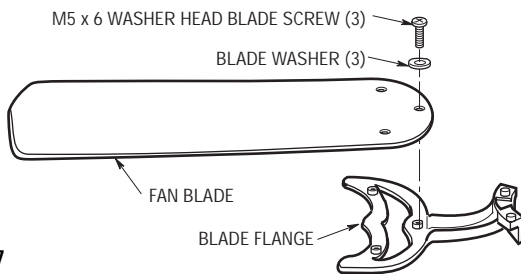

Figure 7
- 9. Mount blade flanges to fan blades using three M5 x 6 washer head blade screws and three blade washers (Figure 7).